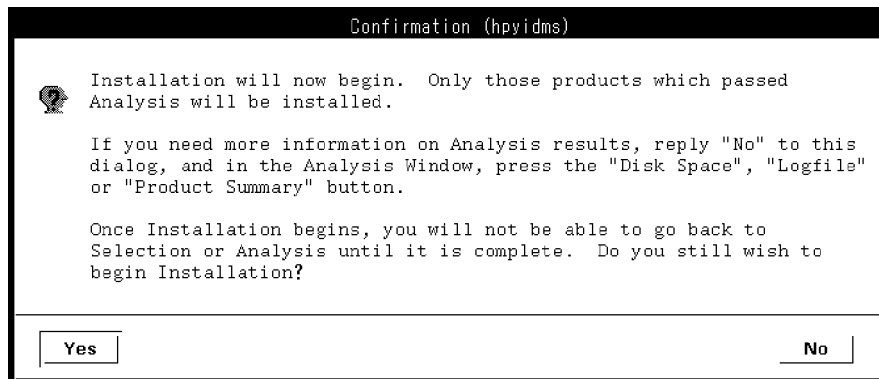

Figure 5-7. Confirmation Window
- j. Click **OK** on the install analysis window. The confirmation window appears as shown in Figure 5-7.